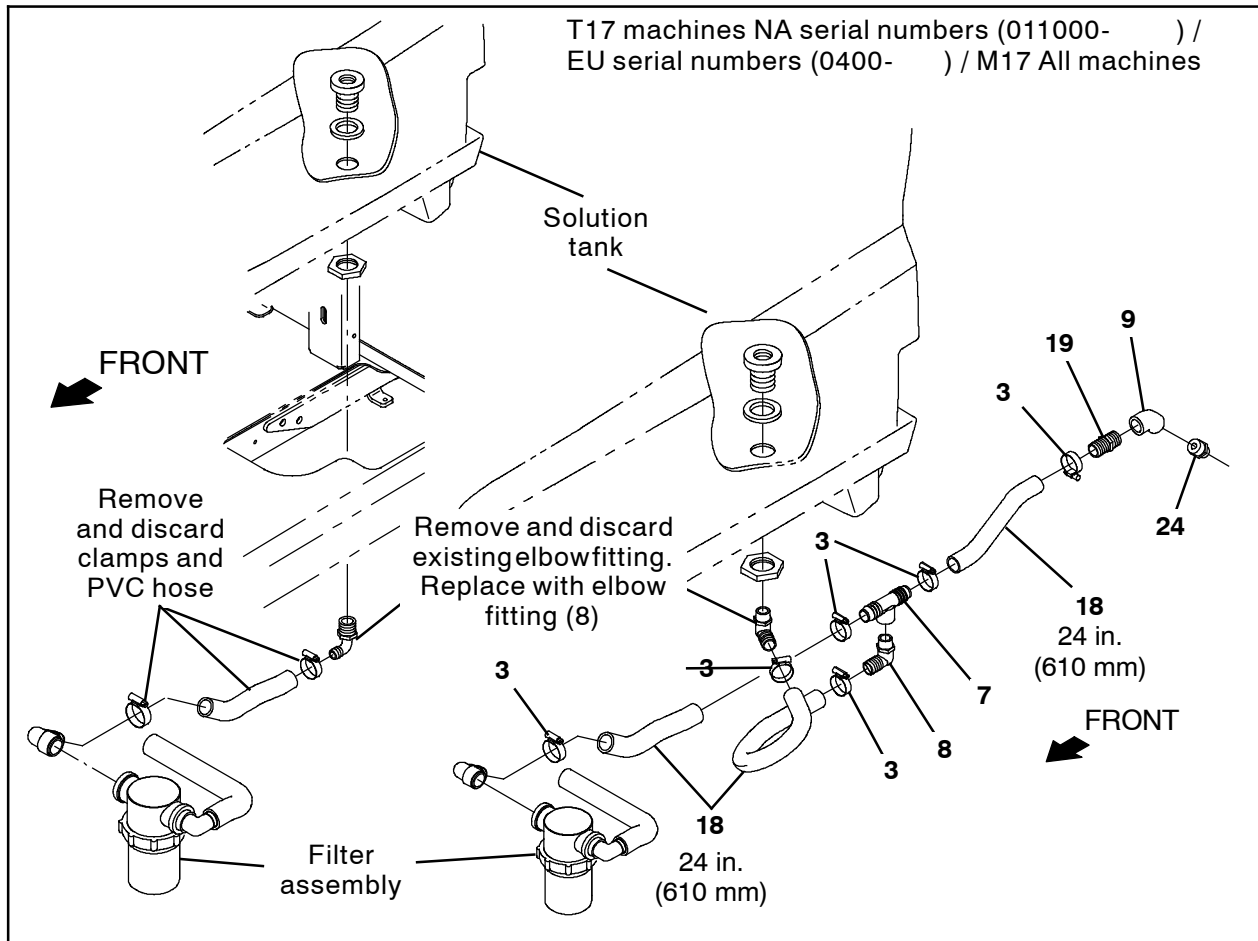

FIG. 1
1. Remove the existing elbow fitting the PVC hose routed between the filter assembly and elbow fitting from the bottom of the recovery tank. Discard the elbow fitting, PVC hose, and hose clamp. (Fig. 1)
2. Thread one plastic elbow fitting (8) into the bulkhead fitting in the solution tank. (Fig. 1)
3. Use a hose clamp (3) to connect a 24 in. (610 mm) PVC hose (18) to the plastic elbow fitting (8) installed into the bulkhead fitting in the previous step. (Fig. 1)
4. Use a hose clamp (3) to connect a 24 in. (610 mm) PVC hose (18) to the filter assembly. (Fig. 1)
5. Thread one plastic elbow fitting (8) into the plastic t- fitting (7). (Fig. 1)
6. Use a hose clamp (3) to connect the 24 in. (610 mm) PVC hose (18) from the filter assembly to the plastic t- fitting (59). (Fig. 1)
7. Use a hose clamp (3) to connect the 24 in. (610 mm) PVC hose (18) from the plastic elbow fitting (8) installed in the bulkhead fitting to the plastic elbow fitting (8) in the plastic t- fitting (7). (Fig. 1)
8. Use a hose clamp (3) to connect the 24 in. (610 mm) PVC hose (18) to the plastic t- fitting (59). (Fig. 1)
9. Thread plastic straight fittings (19) and (24) into the 45° elbow fitting (9). (Fig. 1)
10. Use a hose clamp (3) to connect the elbow fitting assembly assembled in the previous step to the 24 in. (610 mm) PVC hose (18). (Fig. 1)